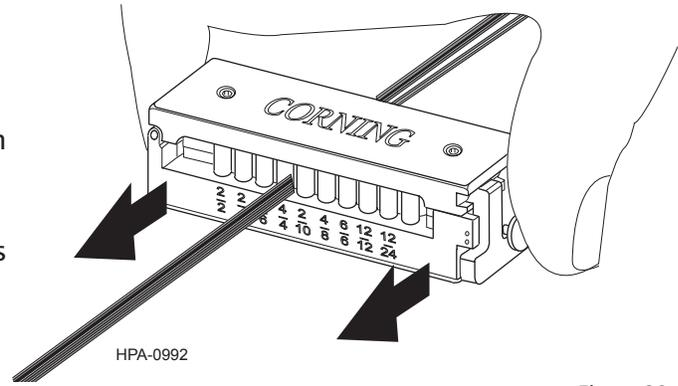

Figure 29
- Step 1:** If appropriate for your installation, divide the ribbon(s) using the Ribbon Splitting Tool (RST-000) (Figure 29).